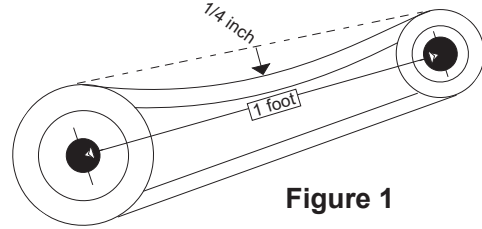

Figure 1
2. Slide the motor plate back until proper tension is reached. For proper tension, a deflection of approximately 1/4" per foot of center distance should be obtained by firmly pressing the belt. Refer to *Figure 1*.